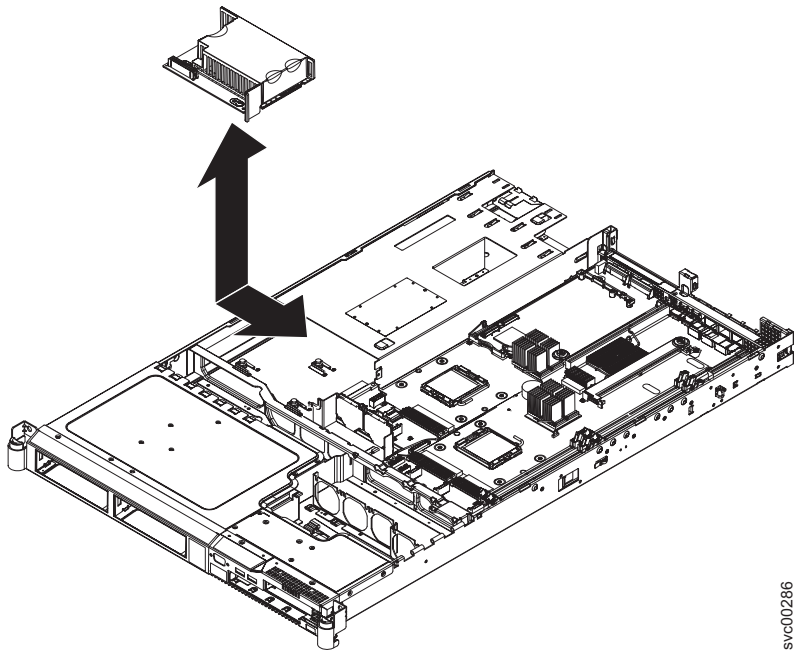

Figure 162. SAN Volume Controller 2145-8G4 power backplane
5. Disconnect the power supplies from the power-supply backplane, as shown in Figure 162.